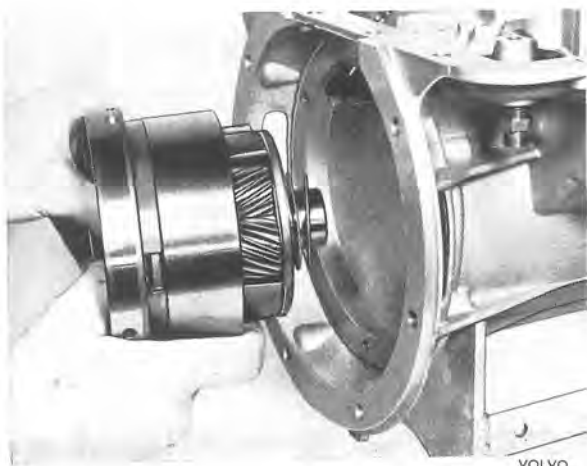

Fig. 4-106. Installing center support and planet gears with needle thrust bearing and plate washer
7. Assemble the planet gear, one-way clutch and center support, see Fig. 4-106. Stick the thrust plate and needle thrust bearing to the planet cover with vaseline.